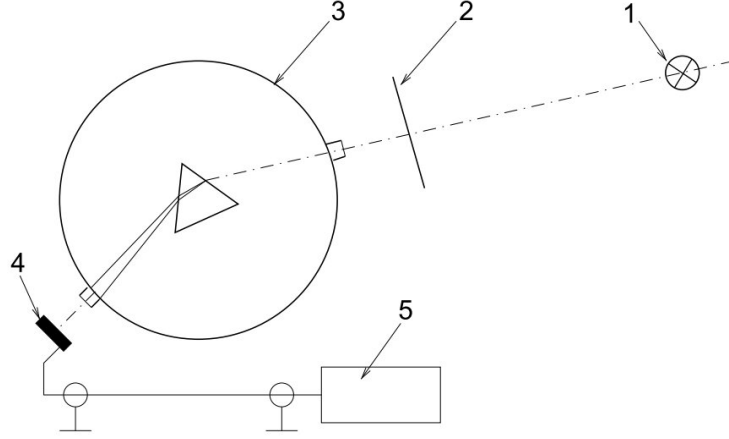

Figure 1: Scheme of the experiment: 1 - Halogen lamp, 2 - Convex lens, 3 - Monochromator, 4 - Semiconductor photodiode, 5 - Voltmetr
The scheme of the experiment can be found in Figure 1. We have a source of white light shining into a monochromator, which is then directed onto the diode which has a connected voltmeter. To find the band gap energy E_g , all we need to do is find the largest wavelength λ_{max} , where the voltage starts to build up and plug into equation (1), to get